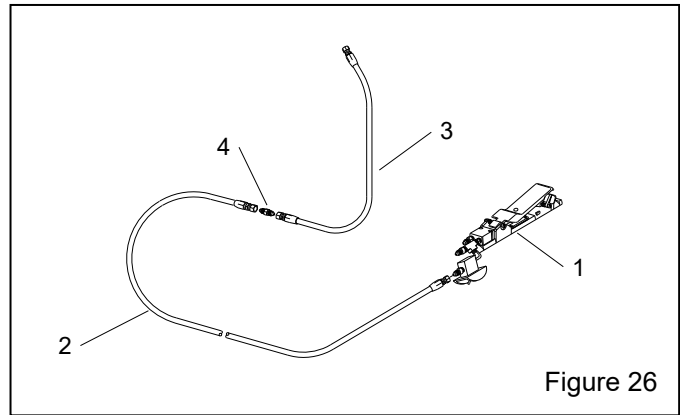

Figure 26
7.4 ACS System Replacement Parts – Figure 26